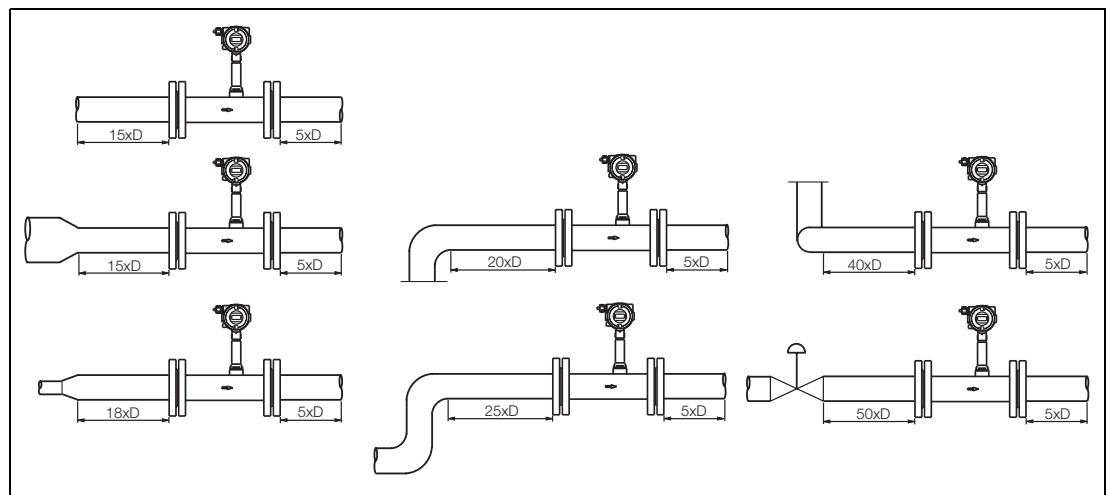

Fig. 13: Recommended In- and Outlet Straight Sections
- the recommended lengths of the in- and outlet straight sections are maintained (Fig. 13).